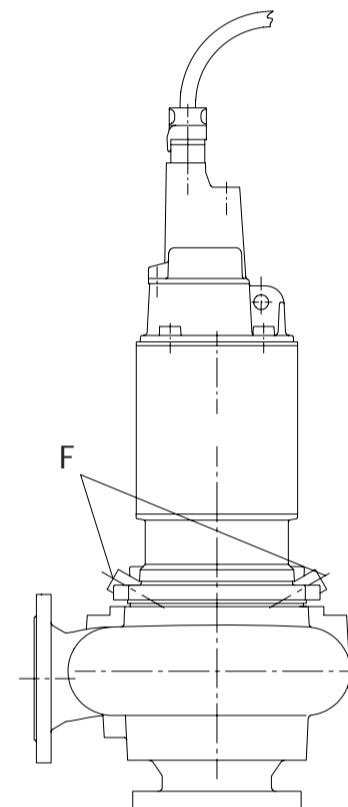

Fig. 5
If a check valve is installed close to the pump, air must be vented from the pump casing or discharge piping (before the check valve) during first start-up to ensure priming (Section 2.2.3, Fig. 5).
Pumps are supplied with a flushing water connection (service connection "F", Fig. 5). For normal sewage application this connection is not used. However, in special cases when pumping high concentrations of sludge or mud, it should be connected. It will conduct cleaning water between impeller and pump side mechanical seal (515), providing periodic removal of accumulated solids.